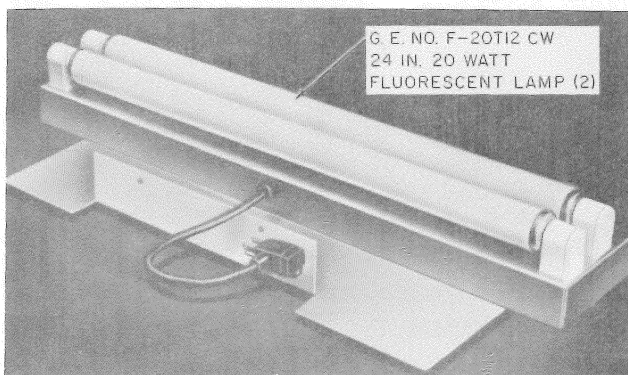

Fig. 26—L-767089 Light Fixture Assembly
- (2) Unplug the light fixture assembly (Fig. 26) from the housing and move the assembly to a safe area.